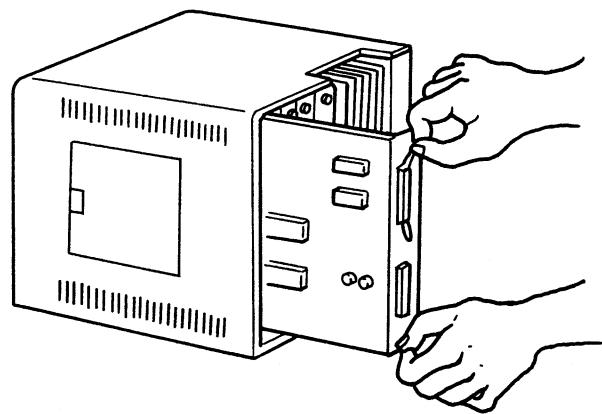

Fig. 4.3.12 Changing the Backup Battery (Pulling out the card)
- 1) More than one minute after the drive unit is powered down, pull out the first card (indicated #1a) from the left in the rear panel by loosening the upper and lower fixing screws in the card. (See Fig. 4.3.12.)